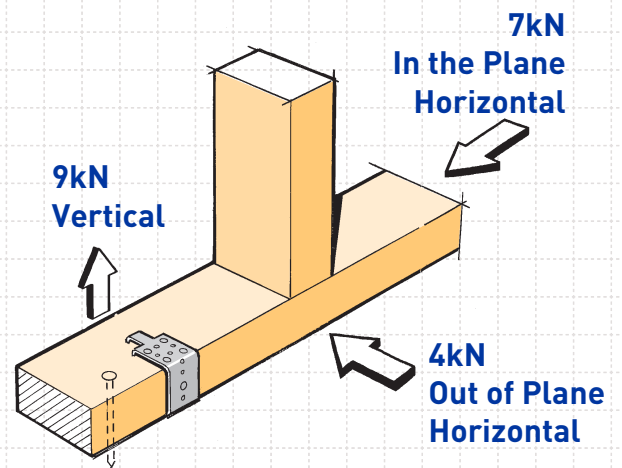

**FIG. 4**
5. Header Block Anchors have also been designed to enable them to be used with timber boxing, as opposed to using concrete header blocks. (Fig. 4). Note however that the product is fixed around the inside face of the bottom plate.